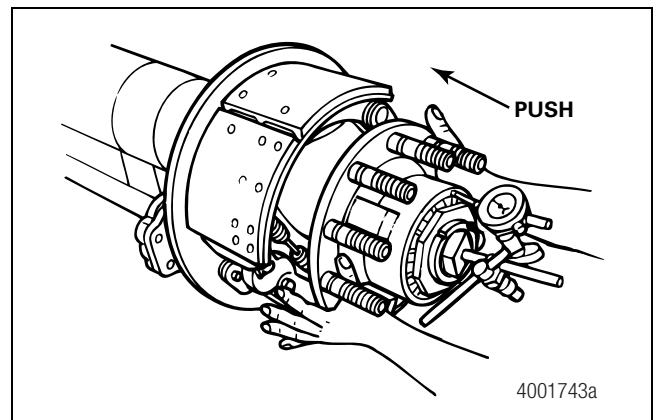

Figure 13.29
2. Push the hub INWARD until the dial indicator does not change. Set the dial indicator to ZERO. Figure 13.29.